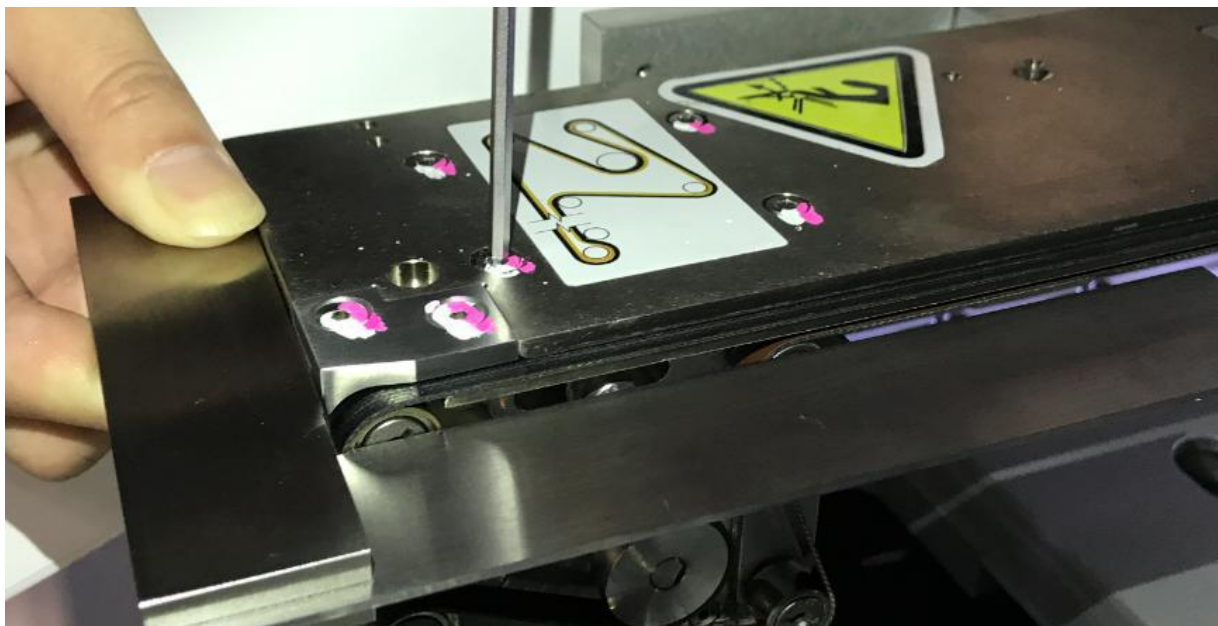

Figure 21 Adj Rail Mount Pulley Alignment
- b) Place L-ruler & Align Mount Pulley assembly as below Figure 21. Align Mount Pulley perpendicular with Adj Rail. Next, Tighten 4 x Screws